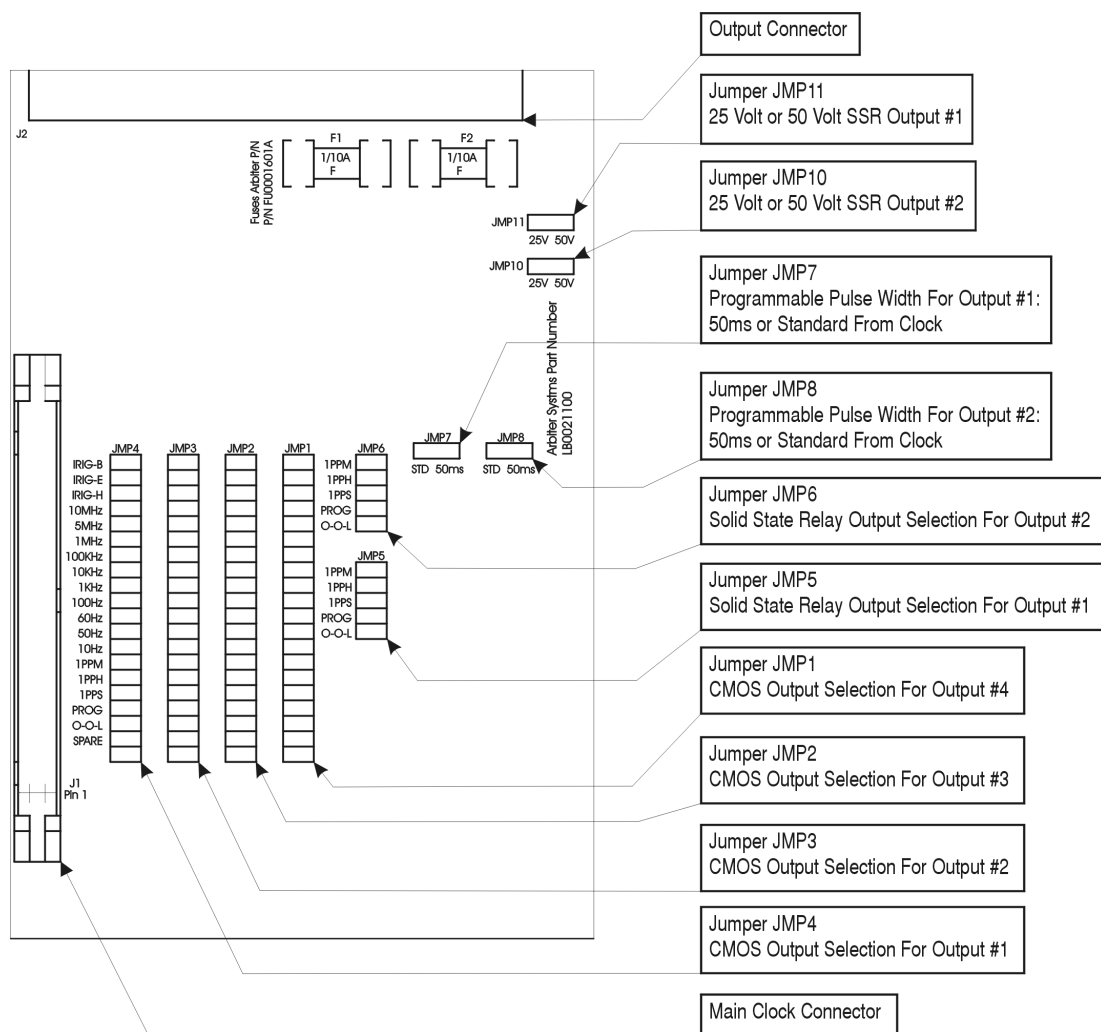

Figure C.9: Option 29 Jumper Locations
Available Output Signals:	Jumper selectable to any of the digital signals available from the clock mainframe plus on board generation of 1 PPM and 1 PPH for the 1093 clock models. See Figure C.9 for Jumper location and selections.
3. Locate the appropriate Jumper using Figure C.9 and move the jumper to the desired setting.